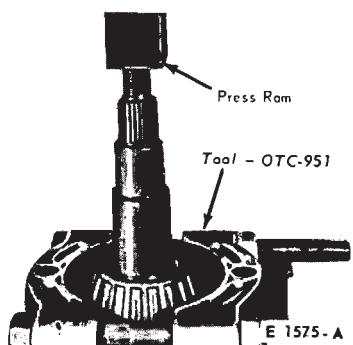

FIG. 14—Pinion Rear Bearing Removal
20. Remove the pinion rear bearing from the drive pinion shaft (Fig. 14).